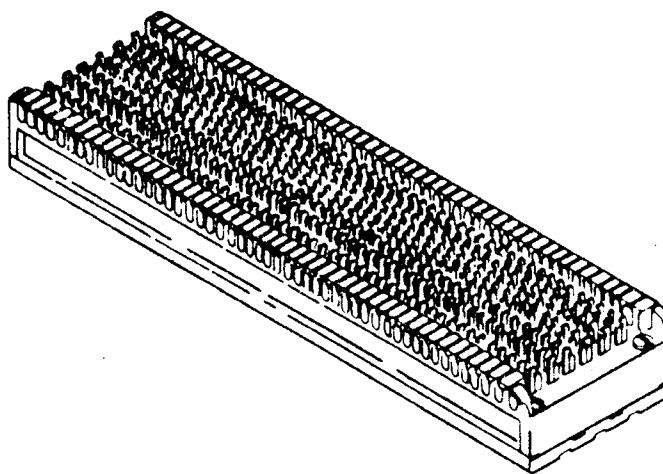

Fig. 5
After unplugging the KTU, locate the "connecting block" that your phone wires are attached to. There may be more than one of these blocks. Fig. 5 shows a typical connecting block
- 2 Attach the Series Jack grey wire to terminal "T"** where the telephone wire was removed. If the terminal is a "press-on" type, (as in Fig. 5) first remove the grey wires lug before pressing the wire on with pliers.